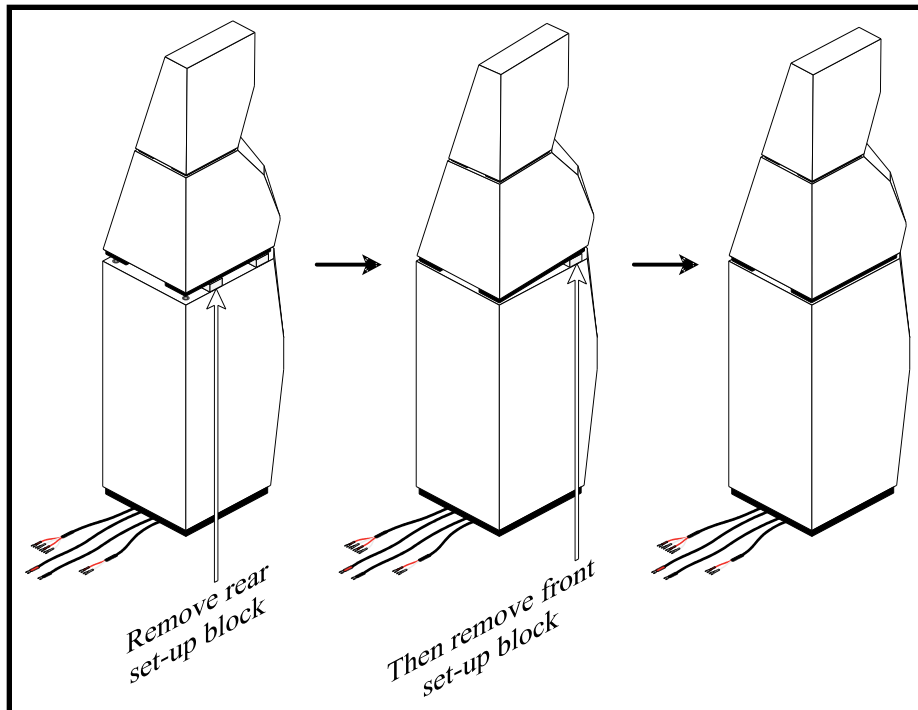

Figure 3.5 – Removal of the set-up blocks between upper and lower speaker cabinets.
6. Once the wiring is routed through the wiring tubes, slide the upper speakers cabinets back, so that the couplers on the upper speaker cabinet are **directly above the sockets** on the lower speaker cabinet (see Figure 3.5). If necessary, gently adjust the upper speaker cabinet on the set-up blocks.
7. Remove the set-up blocks (refer to Figure 3.5): Lift the back side of the upper speaker cabinet slightly, freeing the rear set-up block. Remove the rear set-up block, and carefully lower the two rear Apex Couplers into their respective receiving sockets. Then lift the front side of the upper speaker